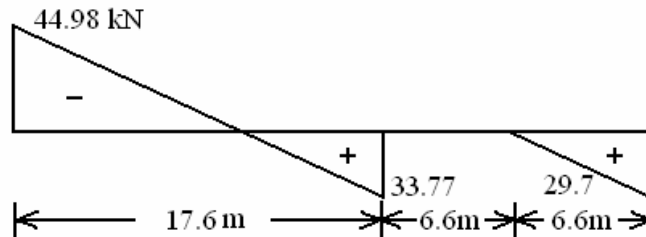

Figure 2
- b) The following Figure 2 indicates the Shear Force diagram. Develop the loading and Bending Moment diagram for the beam. [8+7]